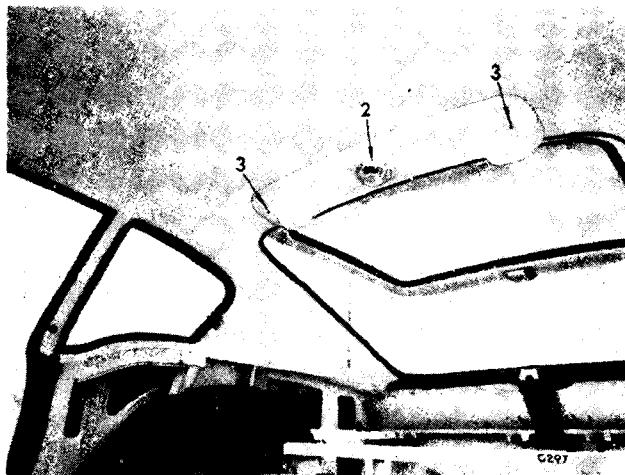

Fig. 37. Tailgate hinge cover
- Twist the roof lamp lens (2) (Fig. 37) to reveal two screws. Remove the screws, lower the lamp and pull off the Lucas connectors.
- Remove the two screws (3) (Fig. 37) and detach the tailgate hinge cover.
Twist the lamp lens (2) (Fig. 37) to reveal two screws. Remove the screws, lower the lamp and pull off the Lucas connectors.
Remove two screws (3) (Fig. 37) and detach the hinge cover.